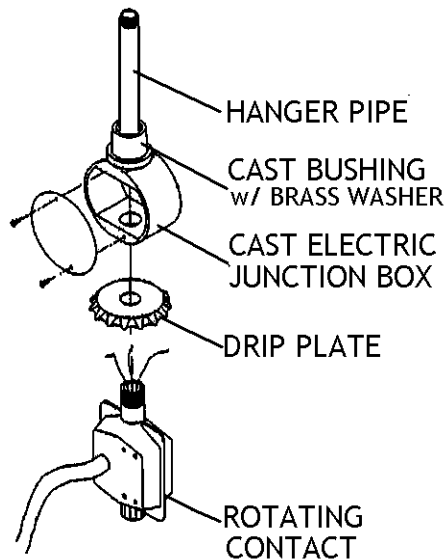

Figure 34 - Rotating Contact Installation
- 88 After machine is raised in bin, place drip plate over threaded end of rotating contact so plate opens downward. **Figure 34.**
- 89 Tightly thread rotating contact into bottom of cast electric junction box on center hanger. **Figure 34.**